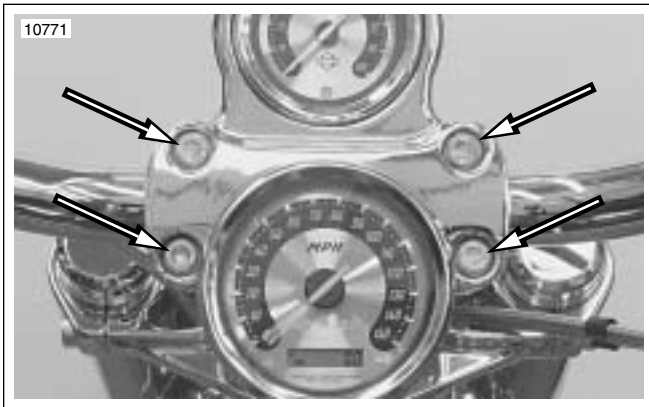

Figure 2-37. Remove Handlebar Clamp Bolts
10. See Figure 2-37. Remove handlebar clamp bolts.